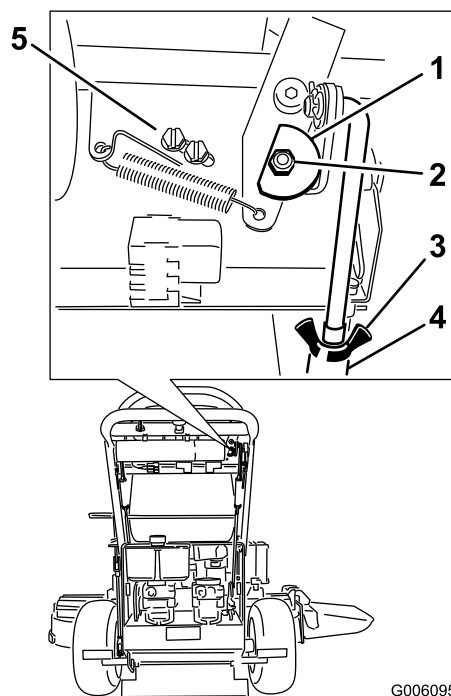

Figure 54
7. Loosen the nut and bolt holding the cam (Figure 54).